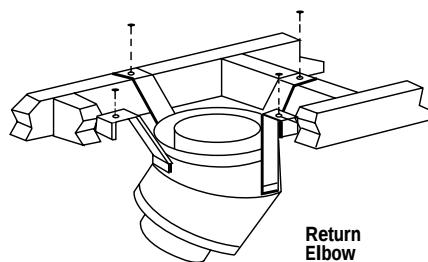

Figure 41
**Step 5.** Secure support straps to framing members by nailing under tension in sheer (**Figure 41**).